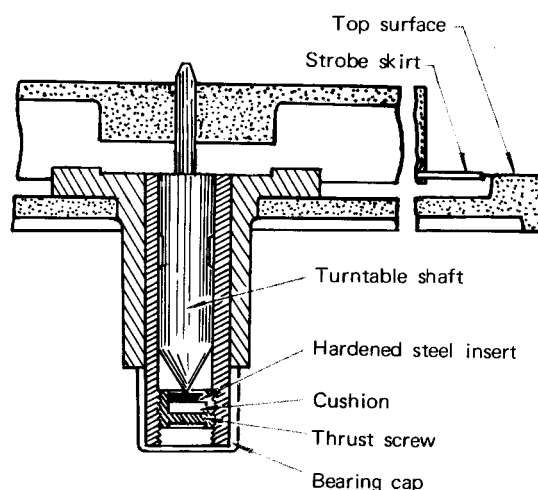

Fig. 3-4 Turntable height adjustment
The point of the turntable shaft rests on a hardened steel surface at the bottom of the bearing assembly, as shown in Fig. 3-4. The steel surface is a cushioned insert housed in the thrust screw that threads into the bearing assembly from the bottom. Turntable height is therefore determined by the position of the thrust screw. To adjust turntable height, proceed as follows:
2. Pull off the cap at the bottom of the bearing assembly. See Fig. 3-4.
4. Turn the thrust screw to make the top surface of the strobe skirt just flush with or slightly below the surface of the turntable base. See Fig. 3-4.